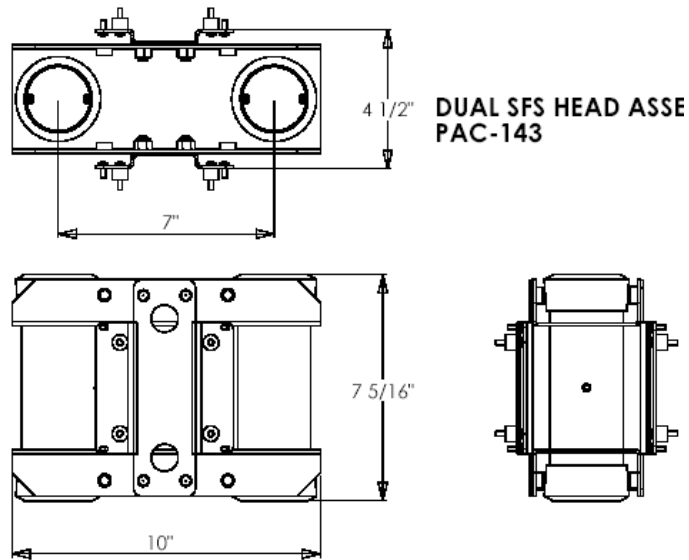

Figure 4
4. Install the 75mm and 100mm bracket on the dual head and secure using four 5/16-18 Nylock nuts (see Figure 4).